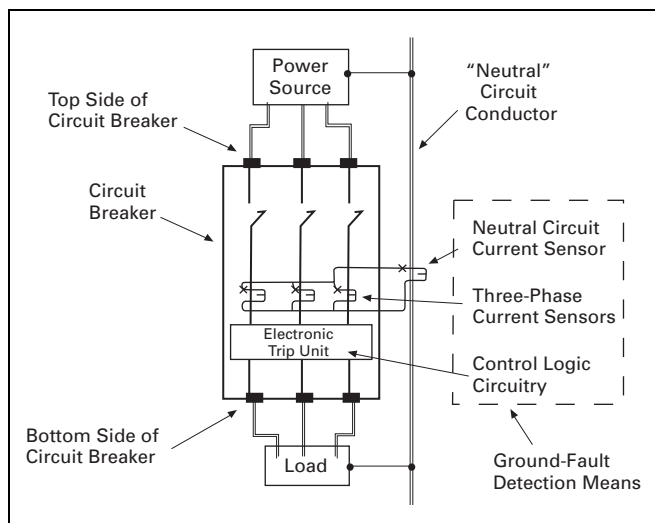

Figure 27.3-10. Circuit Breaker with Integral Ground-Fault Protection
1. Separate current sensors that monitor each phase circuit and the neutral circuit conductors, as shown in **Figure 27.3-10**